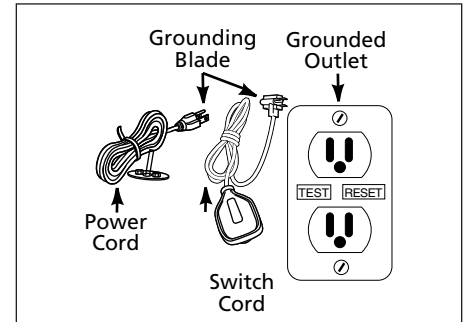

Figure 4a
3. Insert the pump power cord plug directly into the back of the float switch cord plug or solid-state water sensor cord plug (See Figures 4a and 4b).